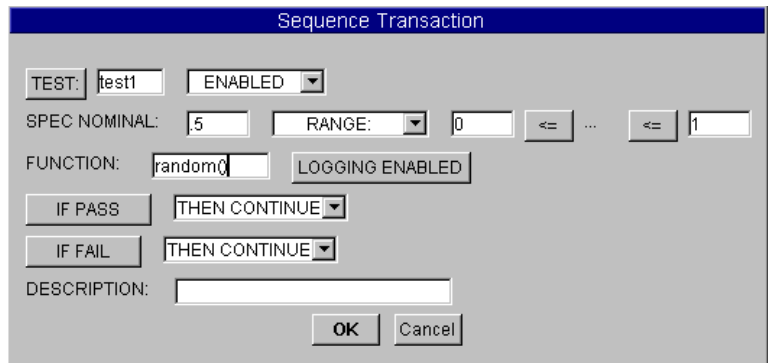

Figure 10-29. Configuring Test1
1. Click *Device* ⇒ *Sequencer*. Double-click the transaction bar, and configure your test using the default name, `test1`, and replacing the `FUNCTION:` field with `random()`. See Figure 10-29.